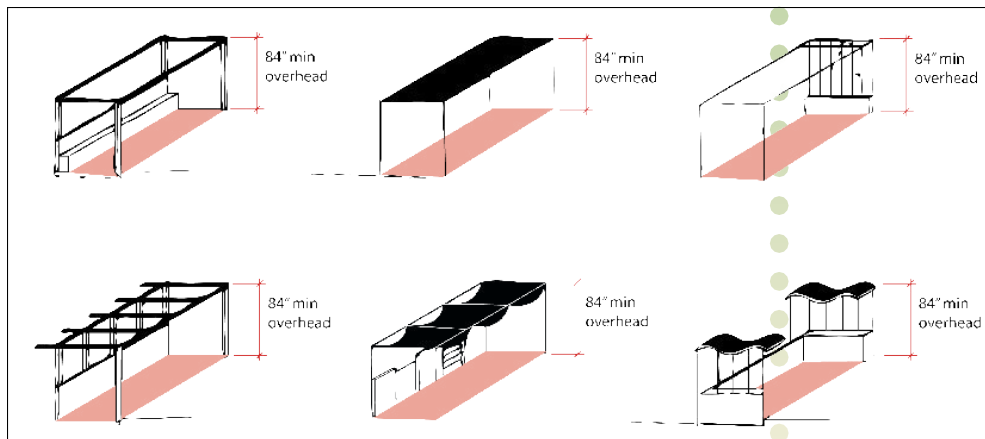

Figure 4. Examples of parklet locations.
- Accommodate seasonal removal for winter street maintenance. See figure 4.